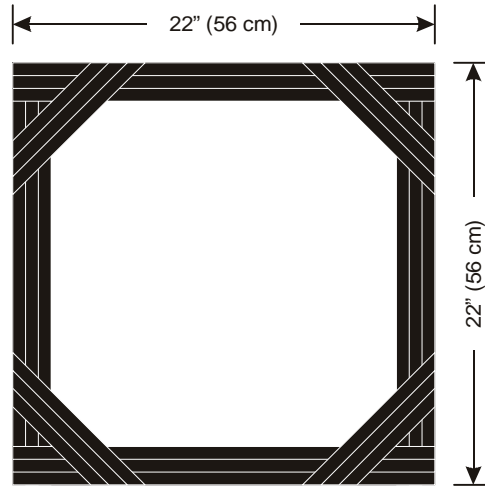

Figure 7-12
- ✓ Build a course similar to the electrical tape delimited course shown in Figure 7-12. Use at least three strips of electrical tape, edge to edge with no paper visible between the strips.